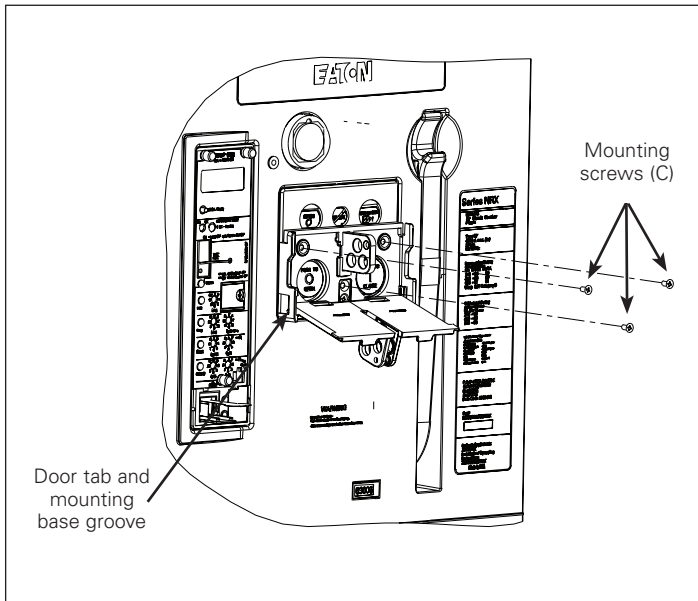

Figure 4. Steps 2-3
Step 3: Insert the second mounting screw (C) through the other mounting hole in the base and into the mounting hole in the faceplate. Torque both mounting screws to 6.0 lbs-in (0,68 Nm). Insert the remaining two mounting screws (C) through the indicated holes in the pushbutton cover and into the mounting holes in the faceplate. Torque both mounting screws to 6.0 lb-in (0,68 Nm). Refer to **Figure 4** for reference purposes.